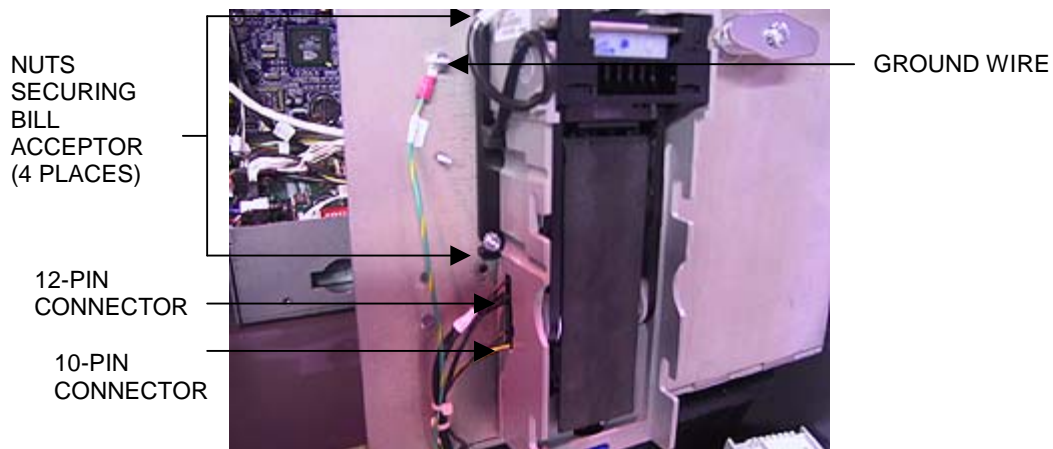

FIGURE 1 - OPEN CASH DOOR AND BILL ACCEPTOR
4. Remove the 4 nuts securing the bill acceptor to the cash door, then remove the ground wire. See Figure 1.
6. Remove the 2 wire connections from the bill acceptor. See Figure 1.